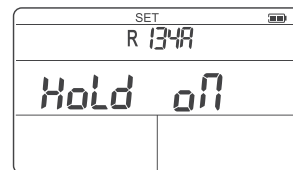

Fig. 11 Temperature compensation
2. Press the **MODE** button 3 times in succession to go to the temperature compensation setting interface (Figure 11) and select with the arrows **◀** and **▶** the activation (ON) or the deactivation (OFF) of this function.